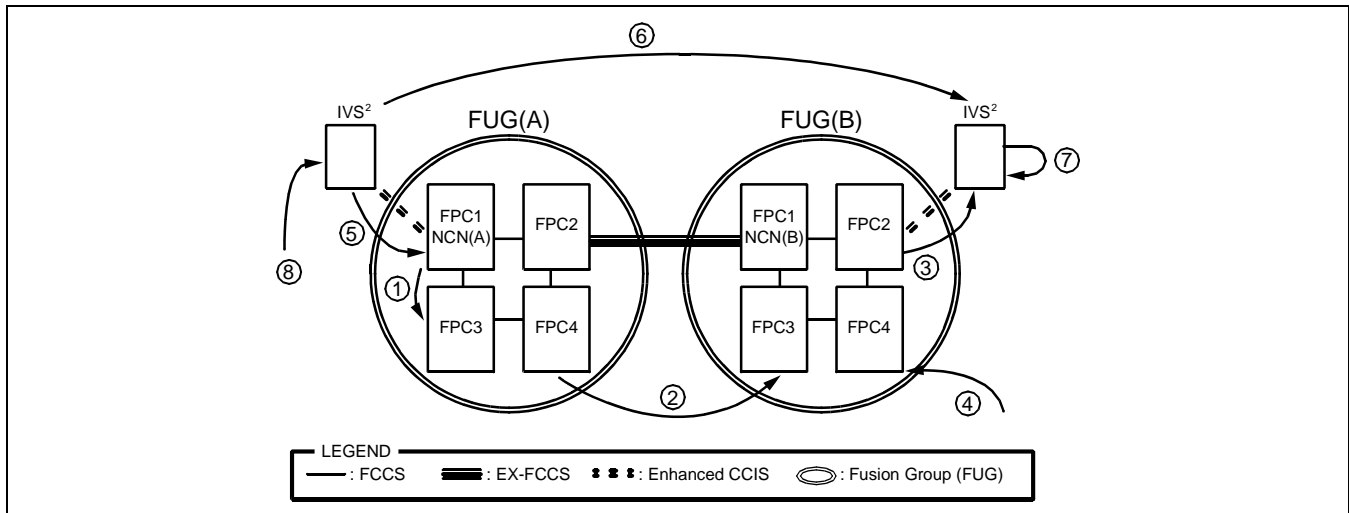

Figure 8-5 Patterns of Number Portability
3. The node that requires the data programming or data change for Number Portability depends on the pattern. See Figure 8-5 and Table 8-2 that explain the eight patterns.